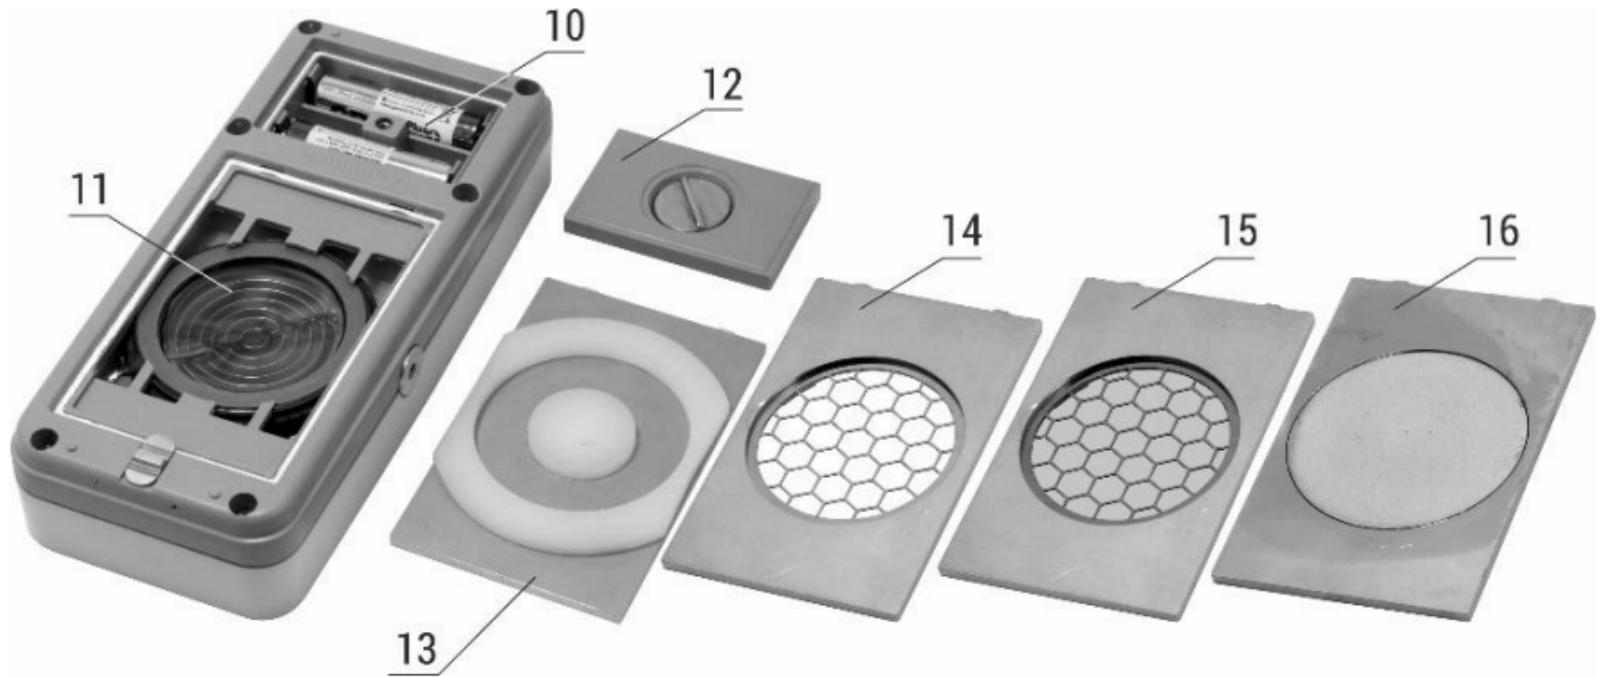

Figure 1.3 – Appearance of the radiometer (bottom view)
The lower cover (2) of the body (Figure 1.3) contains the battery compartment (10) with two galvanic cells installed and a Geiger-Mueller counter (11) sensitive to alpha, beta and gamma radiation. The counter is fastened to the lower cover and closed from the inside of the body with a plastic holder, which is fixed with six screws. From the outside, the detector is closed with one of the covers (13), (14), (15) or (16). The battery compartment is closed with cover (12), which is fixed with the original screw. The polarity signs are inscribed on the bottom of the battery compartment for proper insertion of batteries.